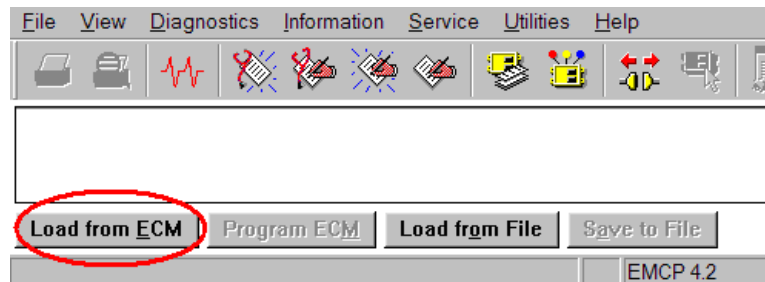

Figure 31: Load from ECM
4. Click "**Load from ECM**" from the bottom left of the ECM Replacement screen to upload the setpoints. See Figure 31.